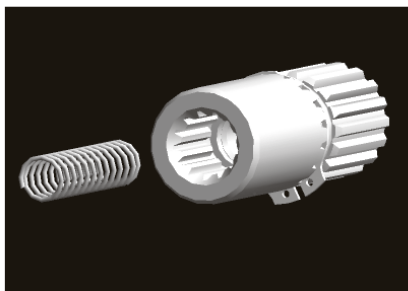

Fig. 9
- d. Install spring into pump shaft as shown in **Fig 9**.